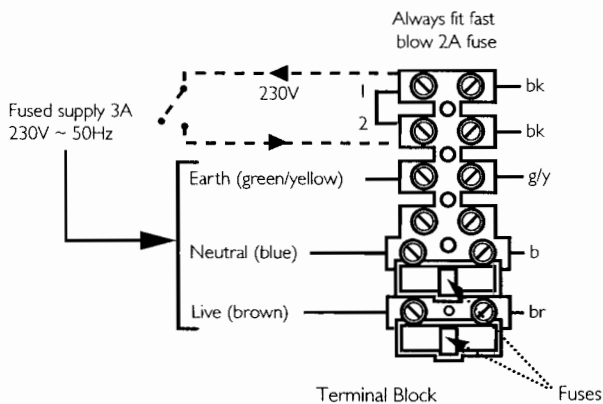

Fig. 29
6. Remove the link between terminals 1 & 2. The switched output from the external control must be connected to terminal 2. (Fig. 29).